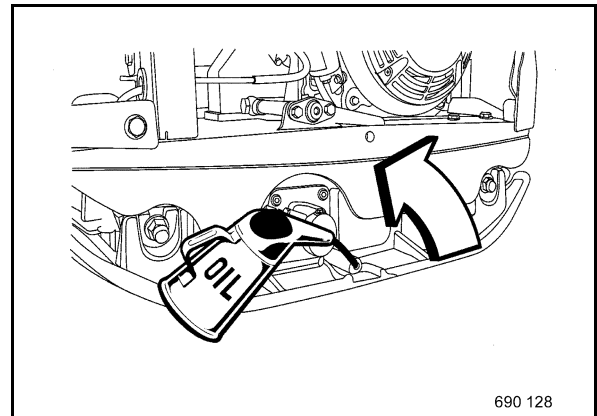

Fig. 64
- Unscrew plug (Fig. 64) and fill in engine oil.